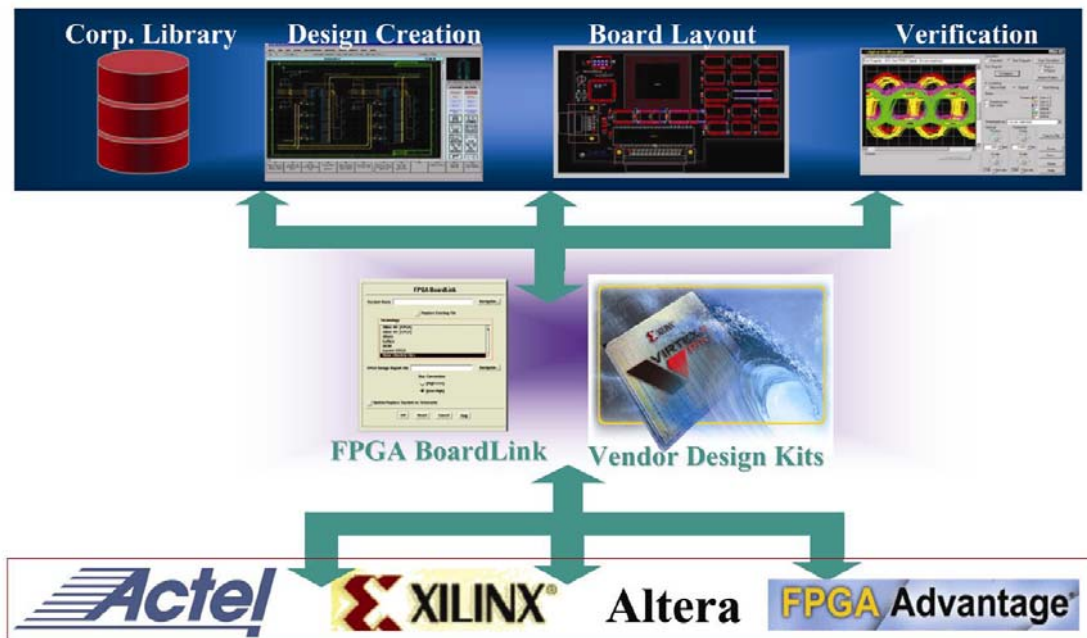

Figure 5: Tight integration between PCB and FPGA design processes.
The following PCB/FPGA integration is possible today: (1) creation and fracturing of PCB schematic symbols and geometries directly from the FPGA design tool and (2) management of design constraints and pin-out assignments between the PCB and the FPGA (for any number of FPGAs) (see Figure 5). This integration not only automates manual (and tedious) design processes, it reduces routing and timing problems once associated with traditional FPGA-on-board integration.